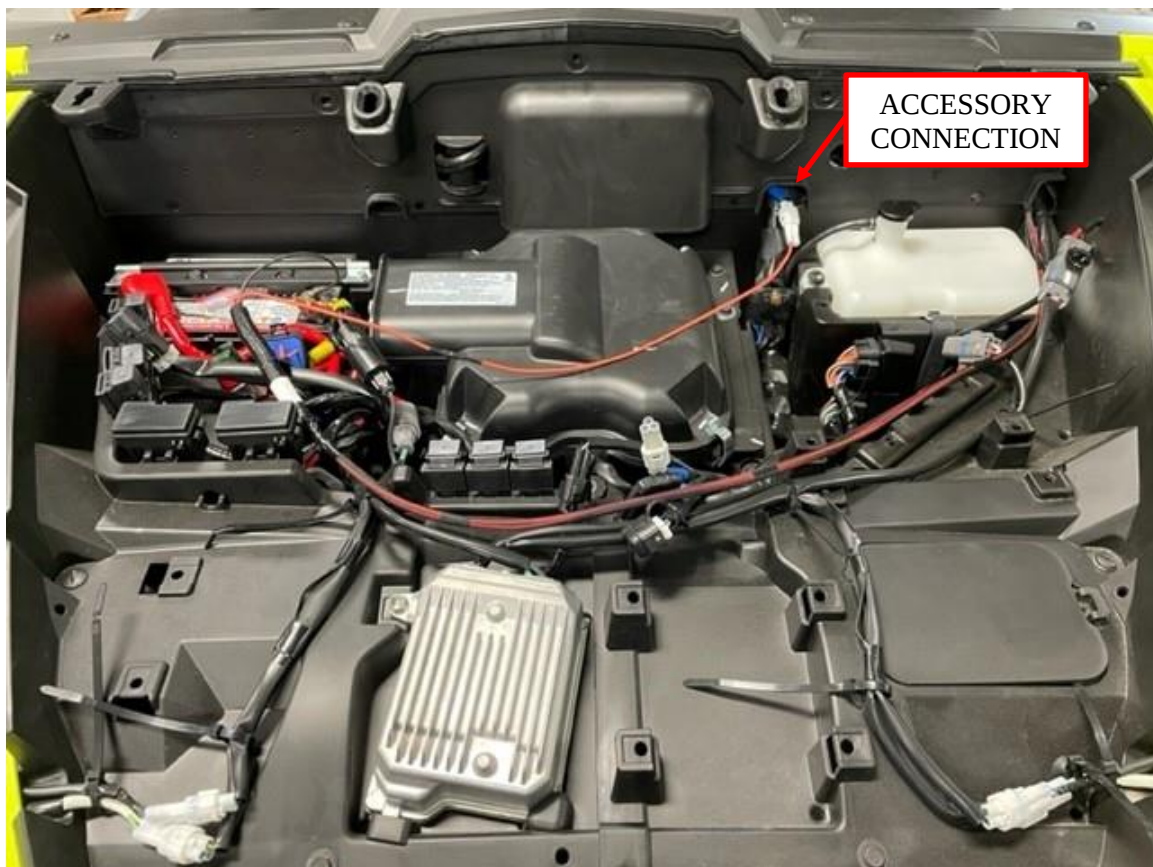

Figure 14: Connect accessory connector and replace the plastic panel.
13. Connect the chassis harness to the accessory connector, and replace the plastic panel. See Figure 14.